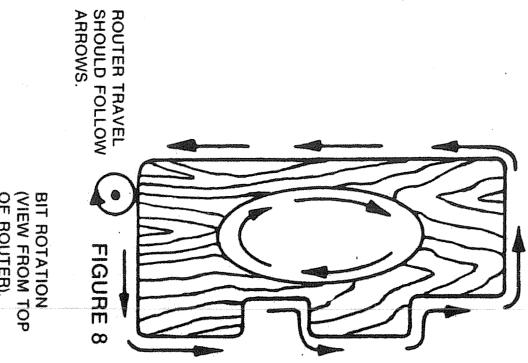

FIGURE 8
3. Since the bit rotates clockwise, more efficient cutting will result if you move the Router from left to right as you stand facing the work (Figure 8).
4. Move the Router counter-clockwise when cutting outside edges. Move clockwise when cutting inside edges. See Figure 8.